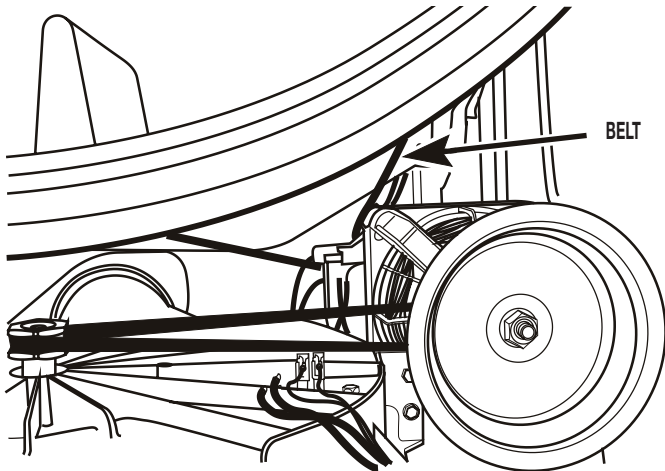

FIGURE 4
- Reach around the back of the drive motor and push the idler wheel arm to relieve the spring tension on the belt; then slide the belt off the idler and motor pulleys. See Figure 4.